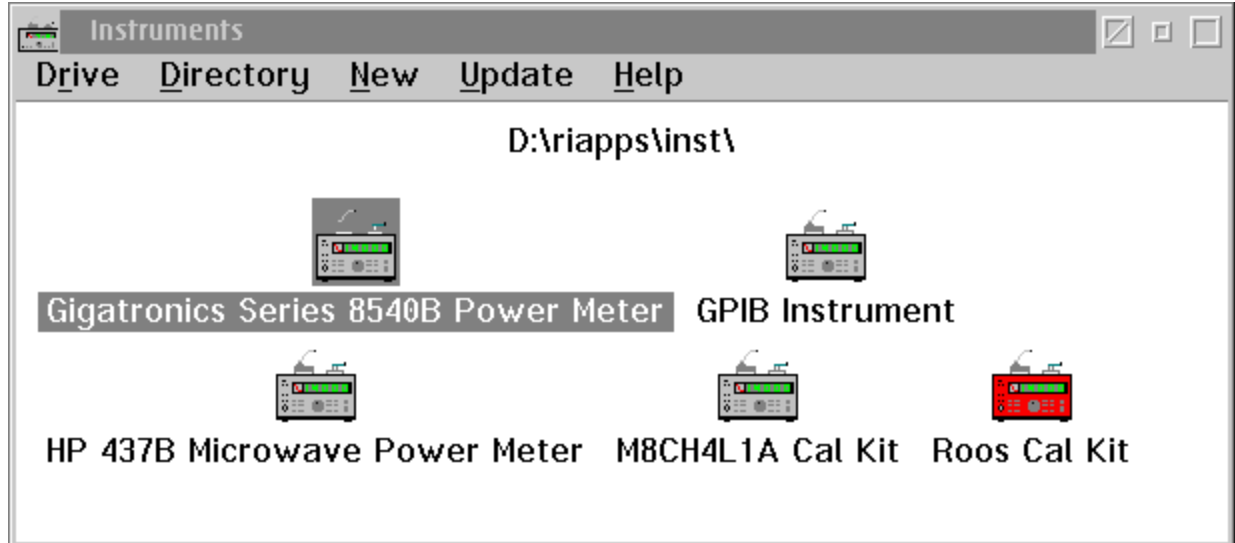

Figure 1
2. From the **Admin Window** select **Test** then **Instruments**. Activate the desired **Calibration Kit** and the desired **Power Meter** from the instruments available (Fig. 1).